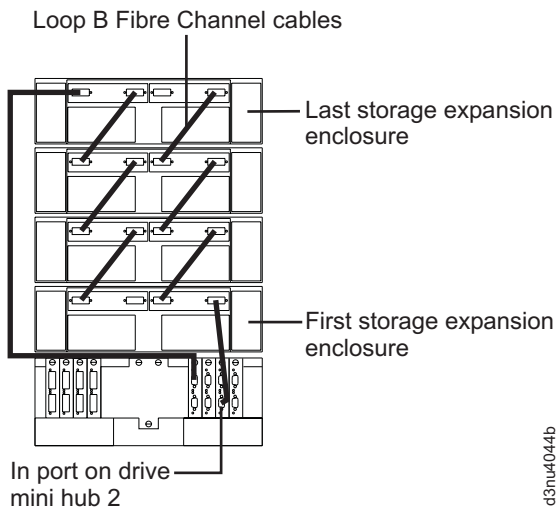

Figure 15. Connecting redundant drive loops to the DS4500 Storage Subsystem
2. Connect drive loop B to the DS4500 Storage Subsystem, as shown in Figure 15.